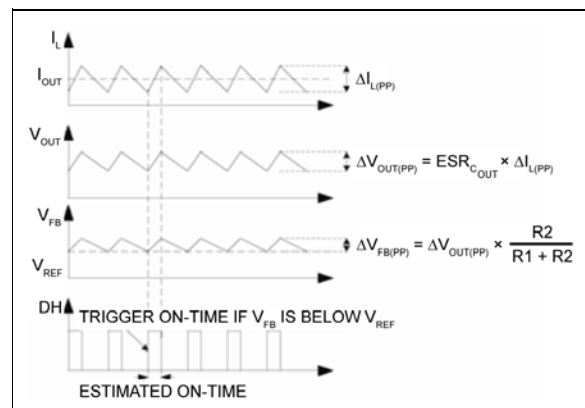

FIGURE 4-1: MIC2125/6 Control Loop Timing
The MIC2125/6 Functional Block Diagram appears on page two. The output voltage is sensed by the MIC2125/6 feedback pin (FB), and is compared to a 0.6V reference voltage (V_{REF}) at the low gain transconductance error amplifier (g_m). Figure 4-1 shows the MIC2125/6 control loop timing during steady-state operation. When the feedback voltage decreases and the amplifier output is below 0.6V, the comparator triggers and generates an ON-time period. The ON-time period is predetermined by the fixed t_{ON} estimator circuitry value from Equation 4-1:
The MIC2125/6 high-side drive circuit is designed to switch an N-Channel MOSFET. Figure 4-1 shows a bootstrap circuit, consisting of a PMOS switch and C_{BST} . This circuit supplies energy to the high-side drive circuit. Capacitor C_{BST} is charged while the low-side MOSFET is on and the voltage on the SW pin is approximately 0V. When the high-side MOSFET driver is turned on, energy from C_{BST} is used to turn the MOSFET on. If the bias current of the high-side driver is less than 10 mA, a 0.1 μF capacitor is sufficient to hold the gate voltage within minimal droop, (i.e., $\Delta_{BST} = 10\text{ mA} \times 3.33\text{ }\mu\text{s}/0.1\text{ }\mu\text{F} = 333\text{ mV}$). A small resistor, R_G in series with C_{BST} , can be used to slow down the turn-on time of the high-side N-channel MOSFET.